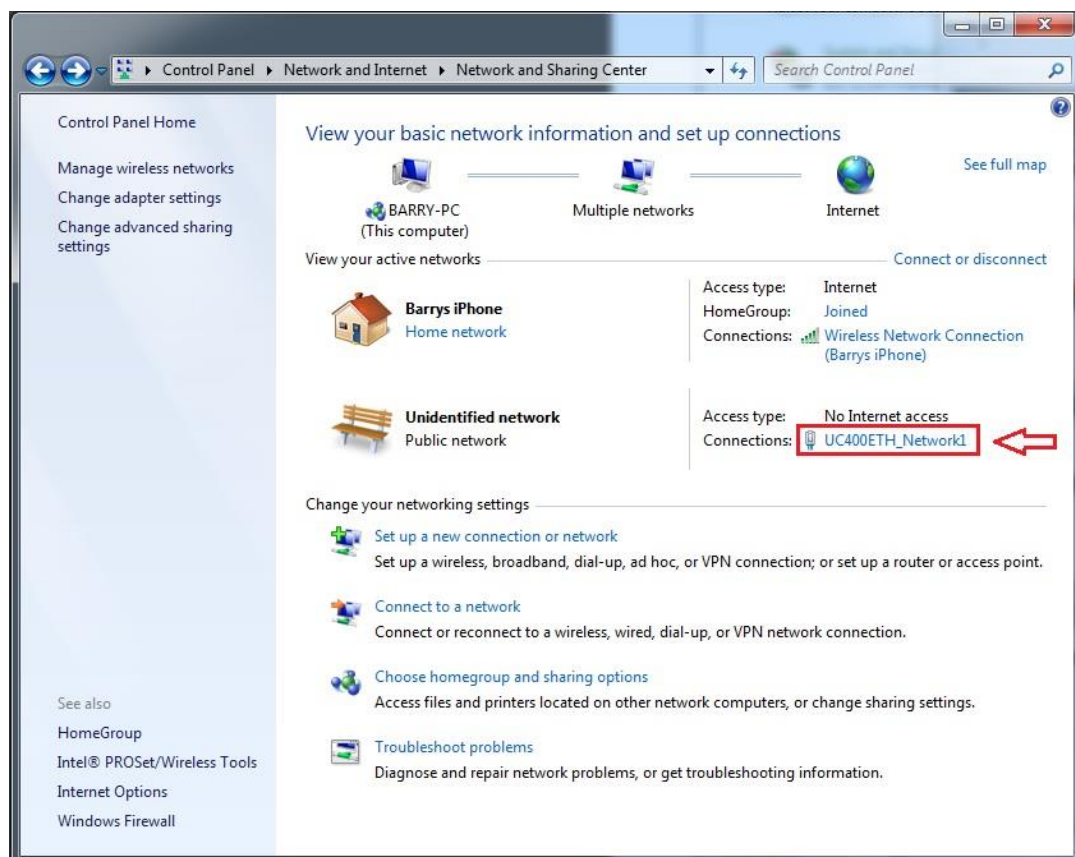

Figure 13: Networks and sharing centre - Non-Identified Connections
- 2- Find the network connection in the non-identified connections list and click on its name. See Figure 13.